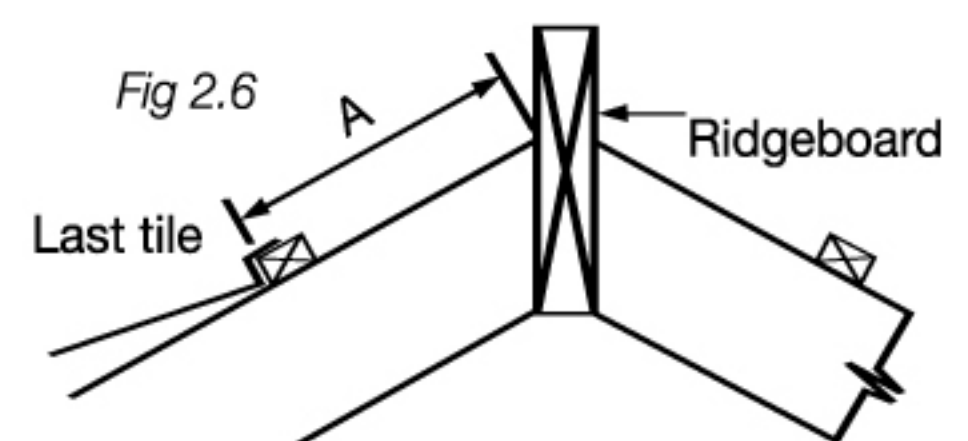
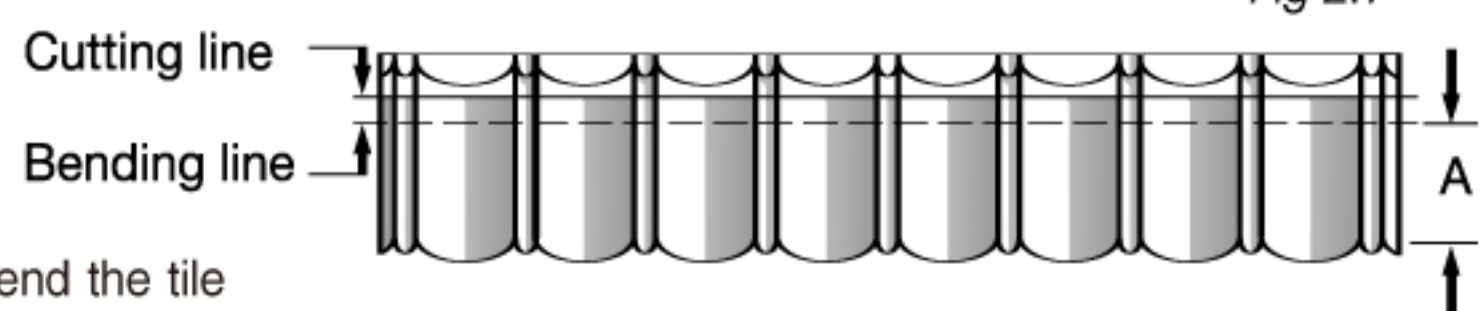

Fig 2.6
Fig 2.7
Measure the distance (A) from the last tile to the ridge board (Fig. 2.6). Add 50mm (2") to the measurement (turn up allowance) and mark the tile to be cut (Fig. 2.7).